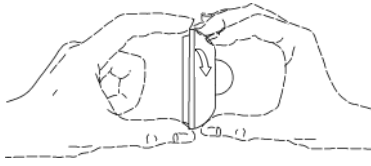

Figure 8
**Installation - See Figure 8 - 11**
| Installation                                | Ceiling mount(See Figure 8 - 11) |